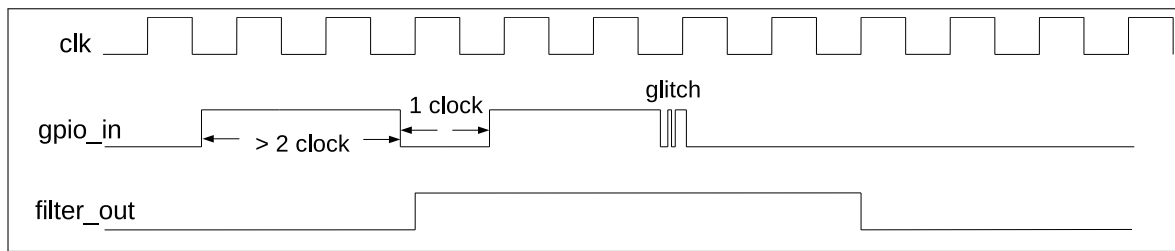

Figure 5-4. Filter Timing of GPIO Input Signals
2. Optionally enable the filter for pin input signals by setting `IO_MUX_GPIO $n$ _FILTER_EN`. Only the signals with a valid width of more than two clock cycles can be sampled, see Figure 5-4.